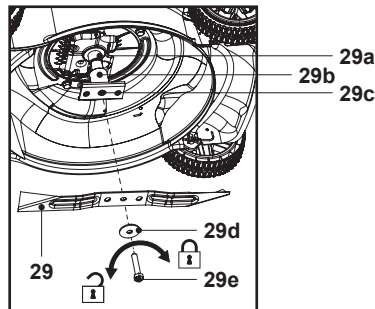

Fig. 23
1. Keep the underbody and cutting blade (29) clean and free of debris. Remove clippings from the rear discharge chute (28).
2. Check all fasteners, such as nuts and bolts, periodically for tightness before operation. After prolonged use, especially in sandy soil conditions, the cutting blade (29) will become worn and lose some of the original shape. The cutting efficiency will be reduced and the cutting blade (29) should be replaced.
3. Keep the cutting blade (29) sharp to ensure a good cutting performance. Replace a worn or damaged cutting blade (29) with a new one of the same type or have it sharpened by a qualified specialist.
4. If jacking the machine is not possible, tilt it to the right side so that the fuel tank cap (12) side is up. This helps to prevent fuel leakage and harder starting due to flooding of the carburetor (13).
5. Loosen the hex bolt (29e) anti-clockwise using a suitable wrench (size 17 mm) and remove it together with the washer (29d), the cutting blade (29), the blade holder (29c) and the inner bushing (29b) from the spindle (29a).
6. Replace the cutting blade (29) with a new one of the same type. Refit the blade holder (29c) together with inner bushing (29b) to the spindle (29a), make sure that the slot of blade holder (29c) pass through the pin to the end of spindle (29a). Check the status of the flange onto the blade holder (29c), then attach the cutting blade (29) properly, fix the assembly with the washer (29d) and hex bolt (29e). Tighten the hex bolt (29e) clockwise with 50 Nm min, 60 Nm max. to ensure safe operation of your machine (Fig. 23).